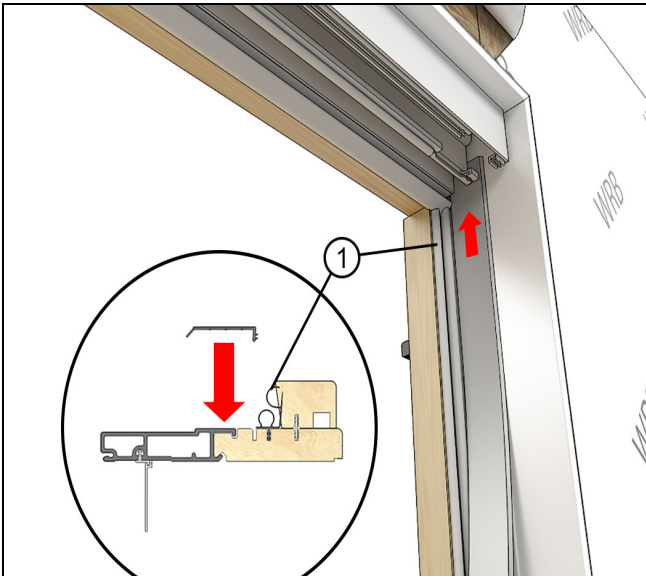

Figure 19
9. Install the jamb covers. Slide cover up between the head track and jamb. See Figure 19.